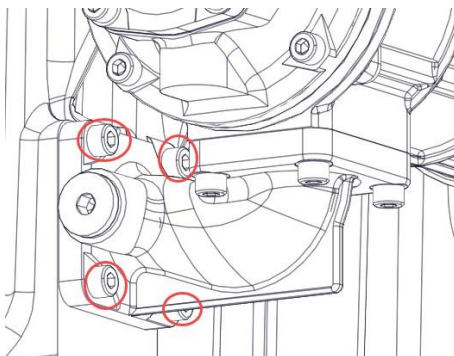

Figure 154-12.
9. Torque the four elbow bolts interfacing oil pan to 15 ft/lbs (Figure 154-12).